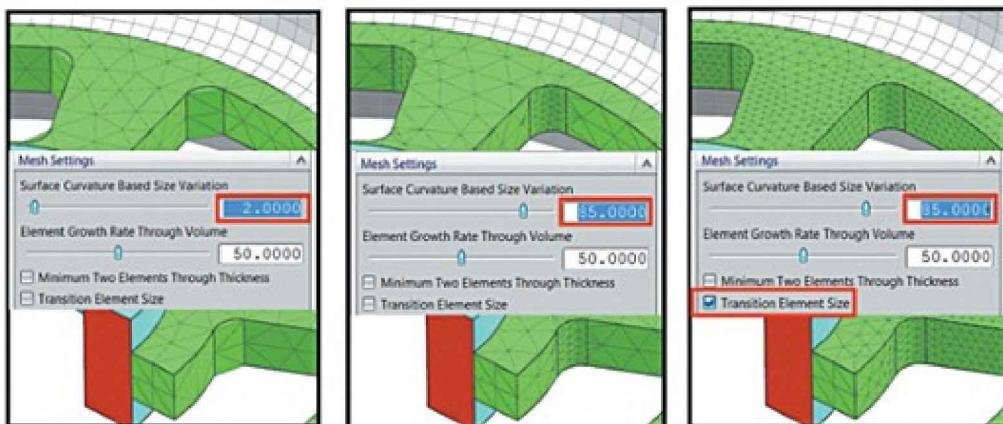

Figure 3.15. Element size based on curvature
- *Surface Curvature Based Size Variation*: the name is self-explanatory; the smaller the radius of curvature, the more finite elements are used to describe it. This option controls the degree of description of curvilinear surfaces by elements. Figure 3.15 shows some command results with this option set to different values.